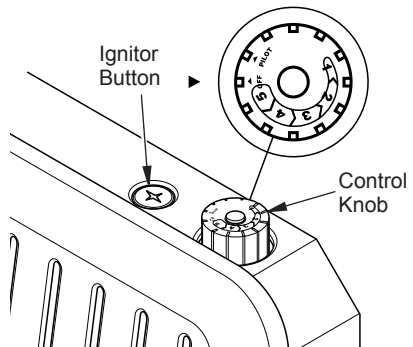

Figure 21 - Control Knob in the OFF Position
4. Wait five (5) minutes to clear out any air. Then smell for gas, including near the floor. If you smell gas, STOP! Follow "B" in the safety information above. If you do not smell gas, go to the next step.
5. Turn control knob counterclockwise ↺ to the PILOT position. Press in control knob for five (5) seconds (see Figure 21).